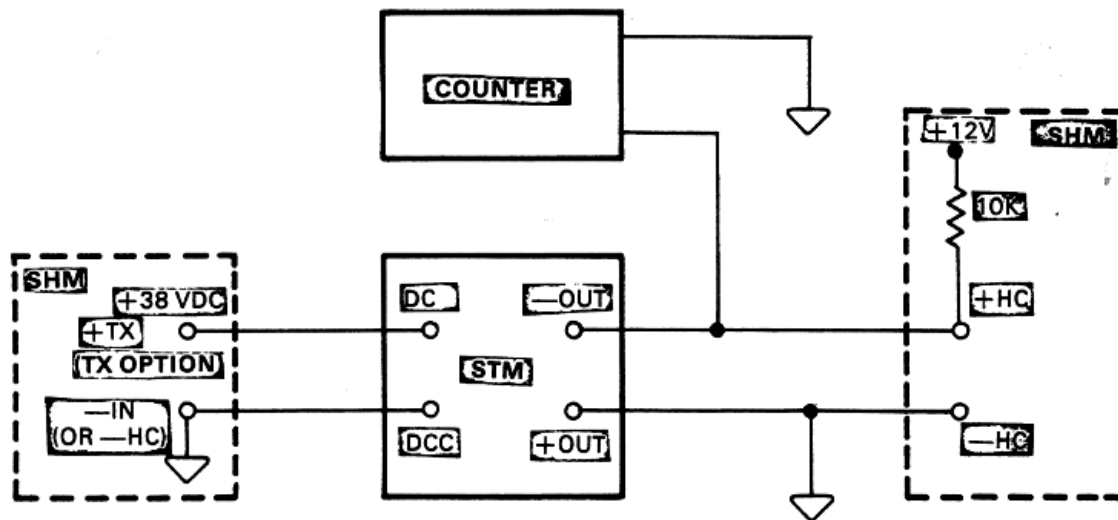

Figure 2-1. Test Equipment Set-Up For Calibration.
- a. Connect unit and test equipment as shown in Figure 2-1.